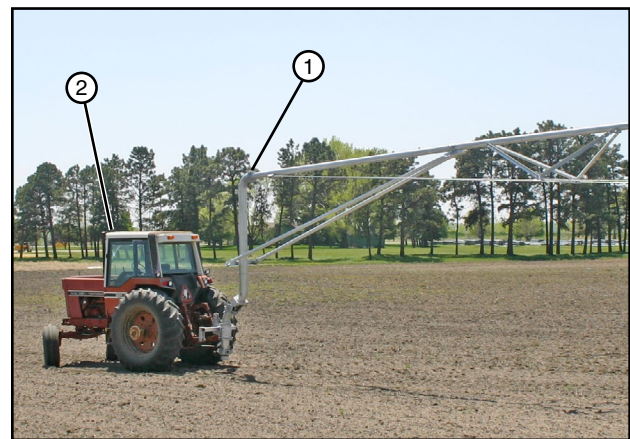

Figure 35-2 1. Small Field Pivot
7. Begin towing the machine in a slow, gradual manner to the next location. See figure 35-2.